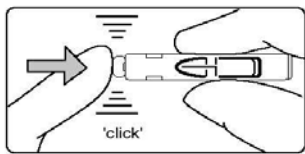

Figure 1
2. Push the lancet cap into the lancet body until it clicks (Figure 1).